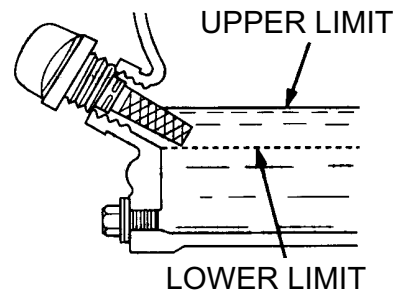

Figure 6. Engine Oil DipStick (Oil Level)
4. If the oil level is low (See Figure 6), fill to the edge of the oil filler hole with the recommended oil type (Table 5). Maximum oil capacity is 1.16 quarts (1.1 liters).